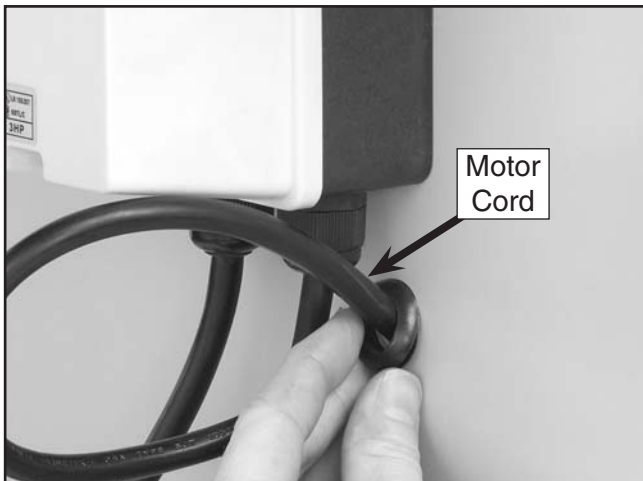

Figure 13. Installing strain relief.
- Make sure there is a little slack in the wire between the switch and the strain relief, then snap fit the strain relief into the opening as shown in **Figure 13**.